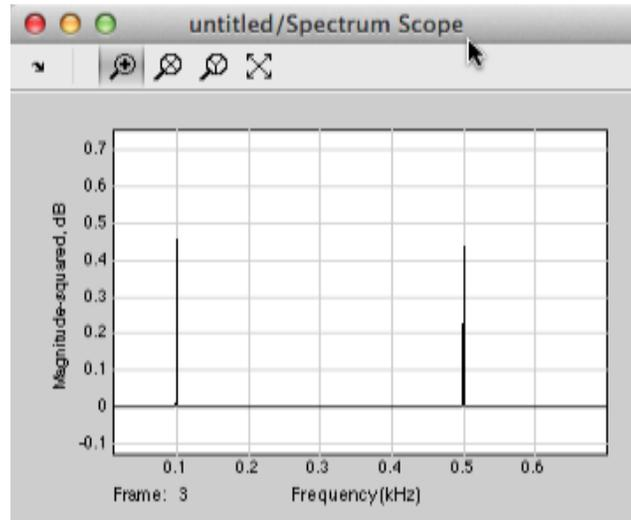

Figure 10. Spectrum Scope Display of 100 and 500 Hz Sine Waves
2. Re-run the simulation. After zooming in on both the scope and spectrum scope displays the displays in figures 10 and 11 should be observed.